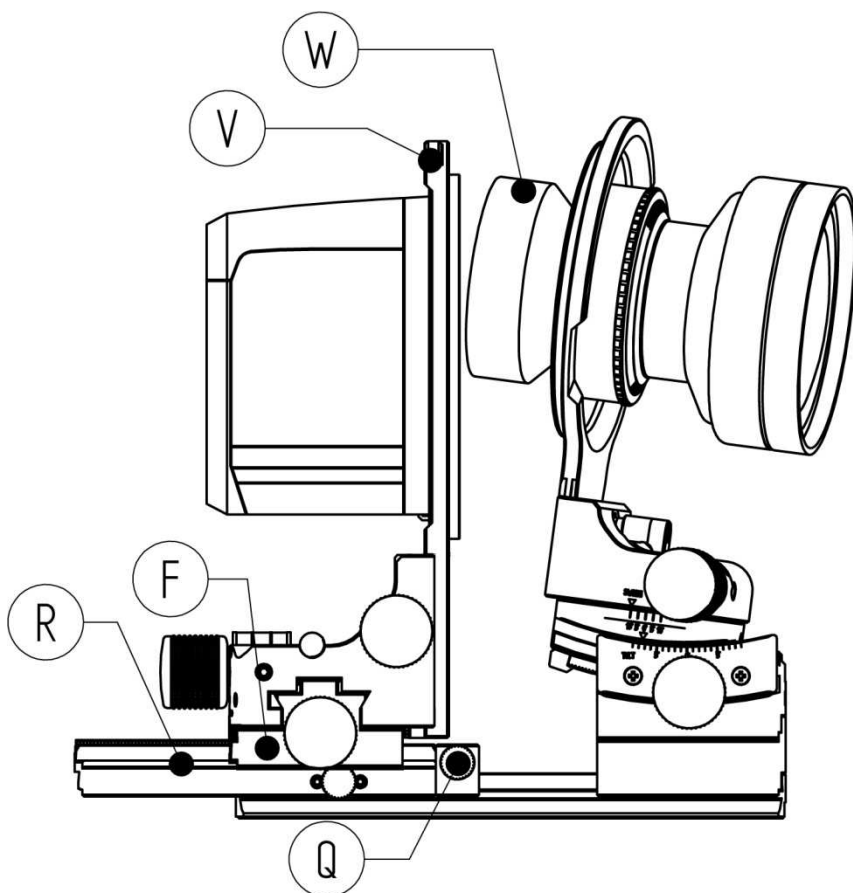

Figure 5: Safety stop to prevent collision
To prevent a collision between the rear lens element, interface plate and/or sensor, please use the safety stop (Q, figure 5). Please note that when you swing or tilt the lens in combination with shift or rise/fall the rear element will be closer to the interface plate. Please set the focus unit (F) to the end stop of the telescopic rail (R) as indicated in figure 5, now lock the focus unit. Please slide the telescopic rail (R) towards the rear element (W) until there is still some clearance between the interface frame (V) and the rear element. Lock